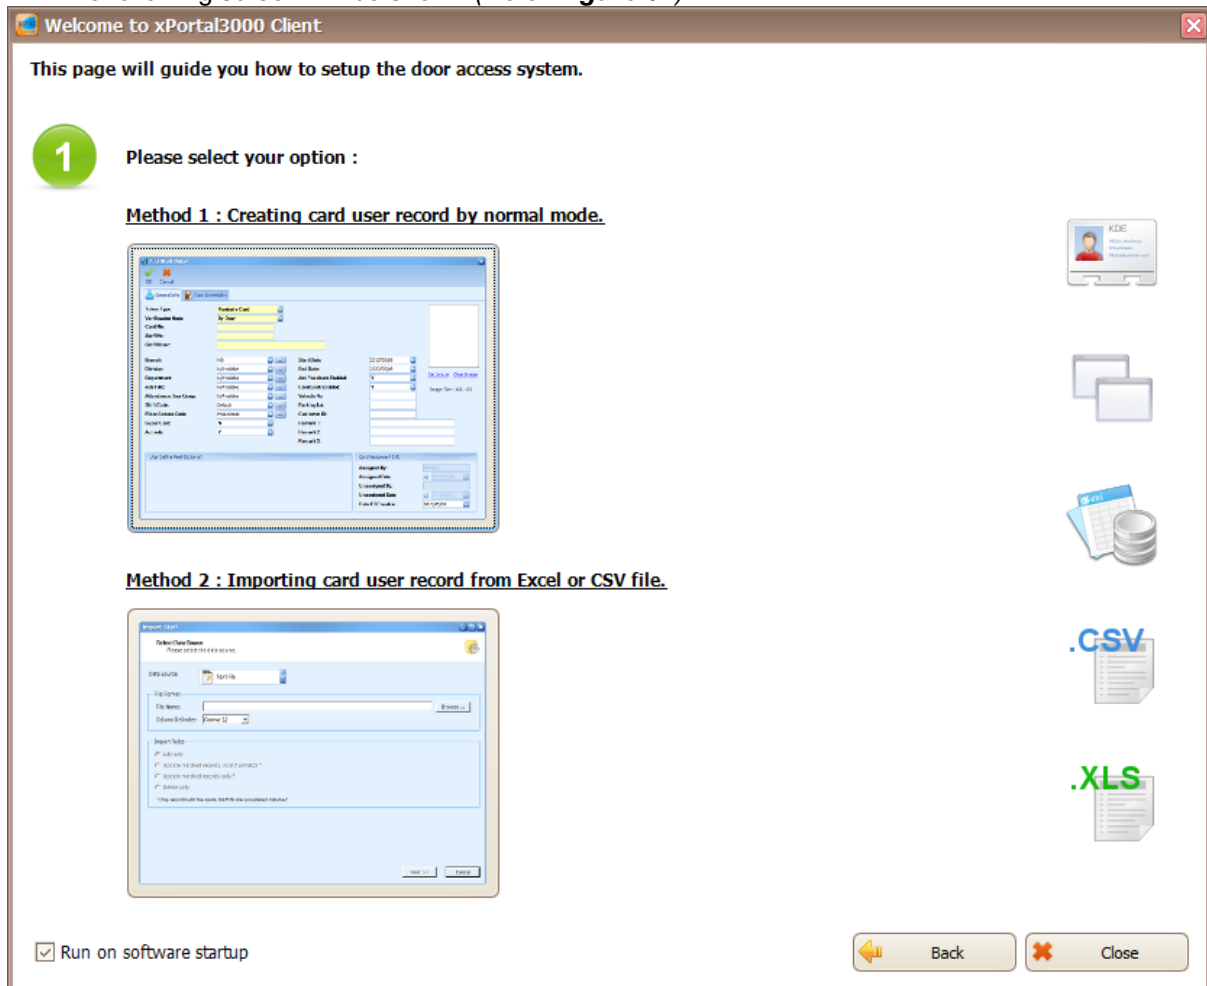

Figure 67 - Startup Wizard (Card User)
2. The following screen will be shown (Refer Figure 67).